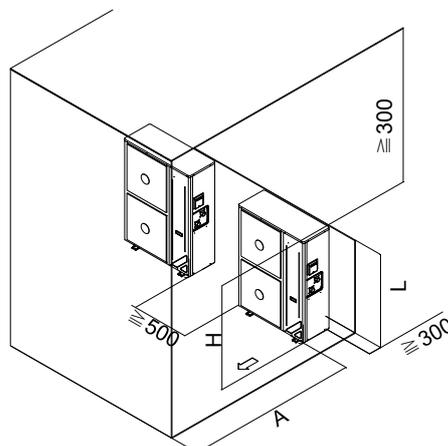

Figure 14
- b. Group installation (see Figure 14)